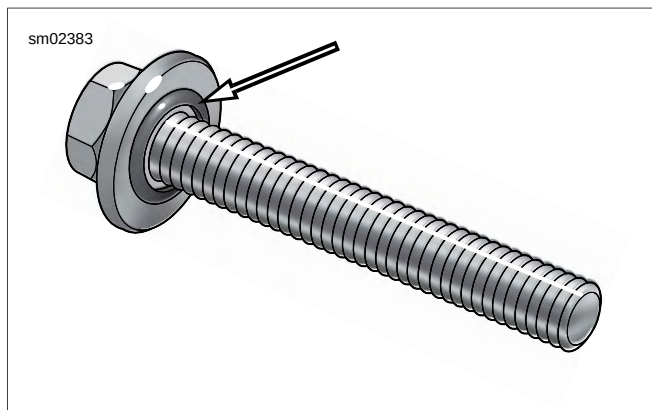

Figure 5-26. Primary Chaincase Sealing Fastener
3. See Figure 5-26. Insert new sealing fasteners.